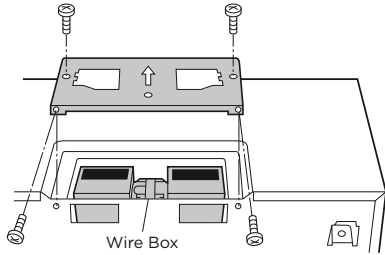

Figure 15
- Attach the Fan Cover Bracket to unit with the 4 screws removed in step 1 above. See Figure 15. The Hood Fan Unit is now rotated for vertical exhaust operation.